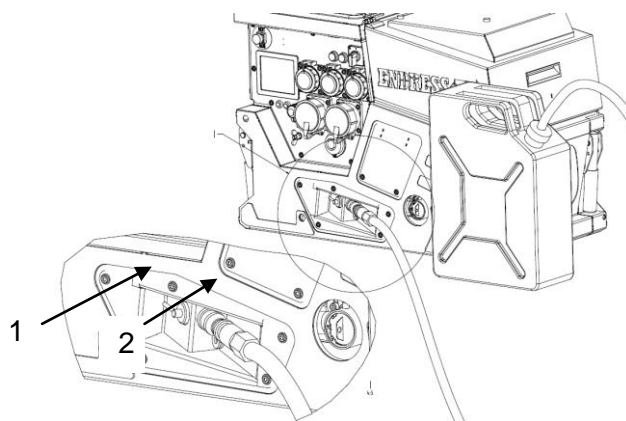

Fig. 5-13: Connect up fuelling device
2. Put quick-action coupling (*Fig. 5-13-(2)*) onto connection (*Fig.5-13-(1)*)